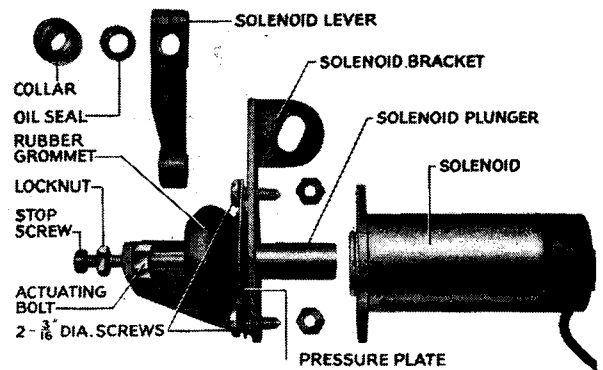

Fig. 27 Exploded view of Solenoid operating details.
4. Fit the pressure plate over the grommet, and with two  $\frac{3}{16}$ " diameter screws position on the solenoid bracket (Fig. 27).